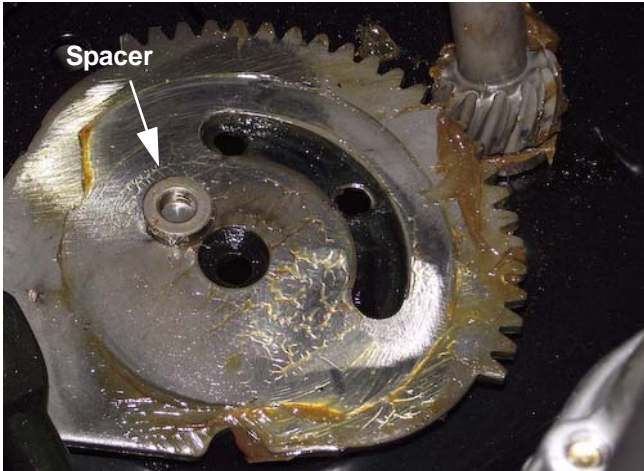

Figure 3.17
7. With the stabilizer plate removed, the steering gear, and spacer can be removed. See Figure 3.17.